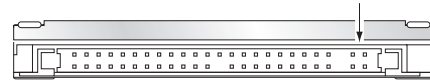

Figure 1. Jumper settings
Refer to the jumper settings in Figure 1 or on your drive label to configure the drive for your system. Jumper settings can also be accessed online from our web site at [www.seagate.com](http://www.seagate.com).
**Master or single drive:** Use the options jumper block shown in Figure 1 to configure the drive for operation. This jumper block is the 4-pin header adjacent to pins 1 and 2 of the I/O signal pins.